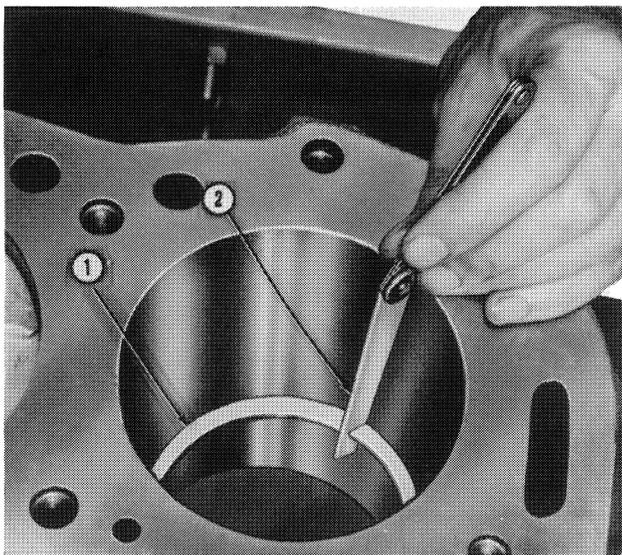

Figure 45
2. Check the gap between the ends of the ring with a feeler gauge, Figure 45. The ring gap should be as specified on page 78. It is important that all rings have at least the minimum gap clearance to provide for the expansion that may occur when the engine warms up to operating temperatures; otherwise, the ring ends may butt together and cause scuffing, scoring, or ring breakage.